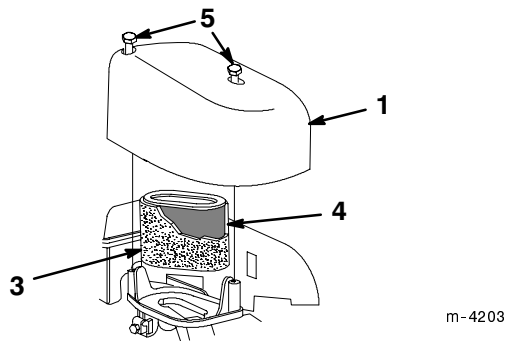

Figure 19
3. Remove the screws that secure the air cleaner cover (Fig. 19).
- Remove the cover and clean it thoroughly (Fig. 19).
- Wash the pre-cleaner with a mild detergent and water, then blot it dry (Fig. 19).
- Remove the paper air filter and discard it (Fig. 19).
- Depending on the model, install the foam pre-cleaner either into the cover or on the new paper air filter (Fig. 19).
- Install the new air cleaner filter (Fig. 19).
- Install the cover and secure it (Fig. 19).